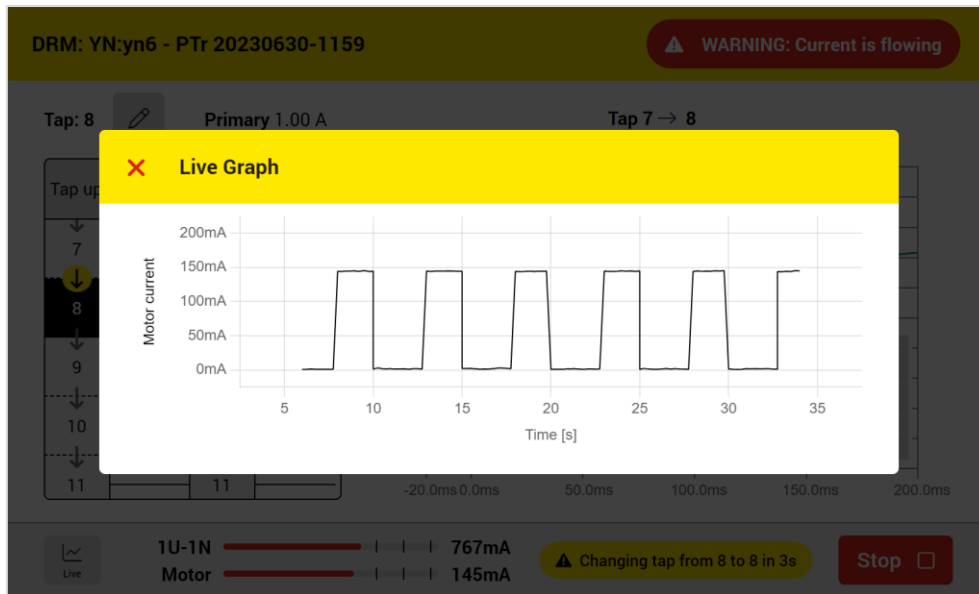

Figure 85: Tap changer motor live graph
- 3 To see the tap changer motor live current curve over the time (Figure 85)